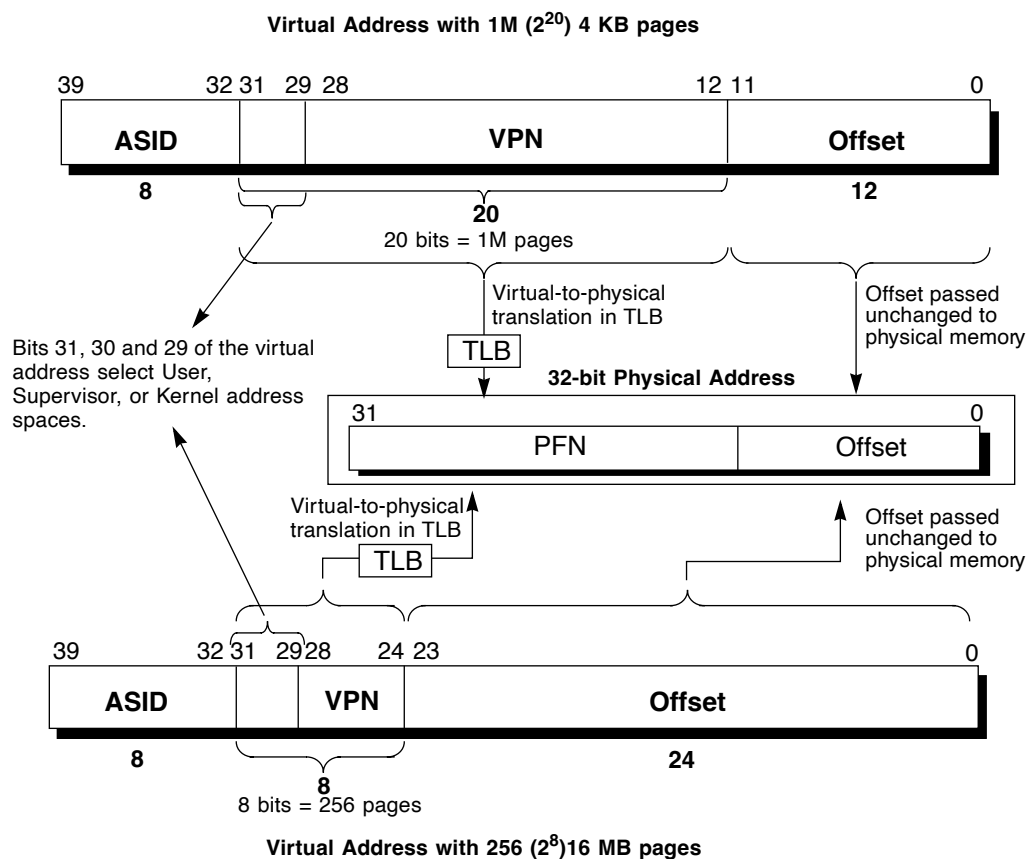

Figure 5-2 32-Bit Mode Virtual Address Translation
The virtual address is expanded by the address space ID (ASID) (refer to **Figures 5-2 and 5-3**). ASID decreases the number of times of TLB flash when the context is switched. The ASID area is 8 bits wide and is in the entry Hi register of CP0. The global bit (G) is in the entry Lo0 and entry Lo1 registers.
Figure 5-2 shows the virtual-to-physical-address translation of a 32-bit mode address. This figure illustrates the two of seven possible page sizes: a 4 KB page (12 bits) and a 16 MB page (24 bits).
- The top portion of Figure 5-2 shows a virtual address with a 12-bit, or 4 KB, page size, labelled *Offset*. The remaining 20 bits of the address excluding ASID represent the VPN, and index the 1M-entry page table.
- The bottom portion of Figure 5-2 shows a virtual address with a 24-bit, or 16 MB, page size, labelled *Offset*. The remaining 8 bits of the address excluding ASID represent the VPN, and index the 256-entry page table.
In the single-user mode, a virtual address space (useg) of 2 GB ( $2^{31}$  bytes) can be used in the 32-bit mode, and a 1 TB ( $2^{40}$  bytes) virtual address space (xuseg) can be used in the 64-bit mode. As shown in Figures 5-2 and 5-3, each virtual address is expanded to a separate virtual address by an 8-bit address space ID (ASID) for up to 256 user processes. The system allocates each process with an ASID to retain the contents of the TLB even when it has switched the context. useg and xuseg are referenced via TLB. Whether the cache can be used or not is determined for each page by the TLB entry (the C bit of the TLB entry determines whether the cache can be used).